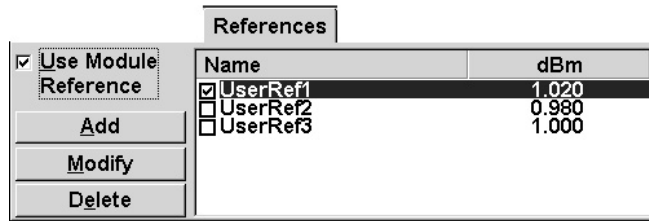

Figure 4-13. References Section
3. In the *References* section, ensure that the reference will be taken from a current power measurement and not from the user-defined list. For this, the *Use Module Reference* check box must be enabled as shown in Figure 4-13.